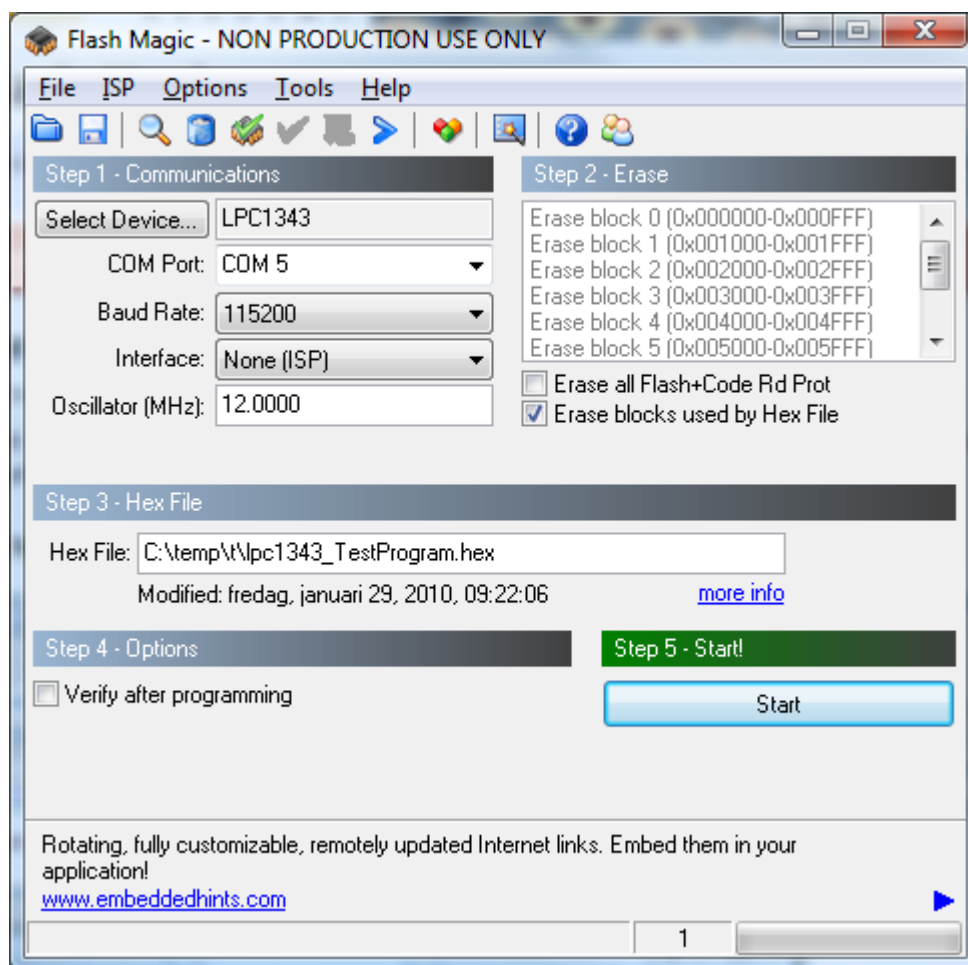

Figure 19 Flash Magic
5. Start Flash Magic, select Device (LPC1343 or LPC1114/301), COM Port (the COM port associated with the target, section 3.4.1 describes the USB-to-UART bridge). Set baud rate to 115200, Interface to None and Oscillator to 12 MHz. Browse to the hex file you would like to download, see Figure 19 for an example.